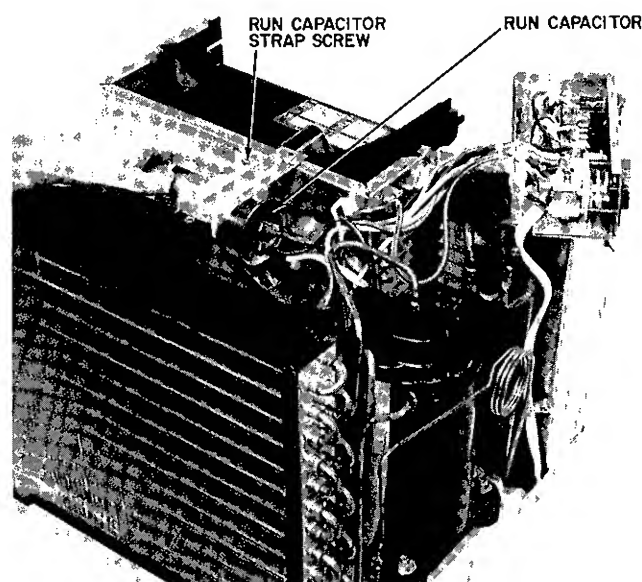

Fig. 12 — Run Capacitor
- 12 **Run Capacitor** — See Run Capacitor in Fig 12